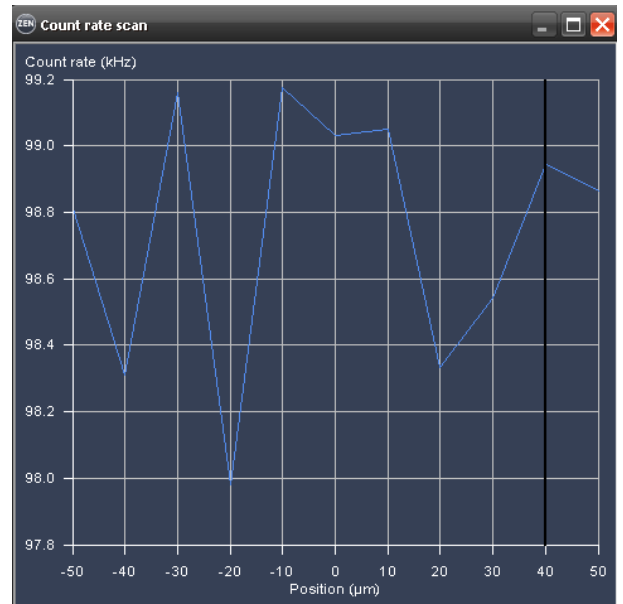

Fig. 116 Z scan image
- Press the **xyz-Scan** ConfoCor action button to perform a z scan. The z scan is performed and the measured intensity is displayed in dependence of the Z position (Fig. 116). The red line in the diagram shows the actual z position. Peaks (normally 2 from the two lower and upper membranes) show levels of high signal intensity and may correlate to labeled membranes. Note, that if the glass surface happens to be in the z-scan range it will also give a peak. To determine its position, just perform a z scan at a position where there is no cell. If the glass reflection contribute so much that the peaks of the membranes are hidden due to scaling, you have to shorten the lower range end. Place the red line at the peak that corresponds to the membrane to select this z position. Note that z-scan is performed relative to the current position, which will be assigned to 0.